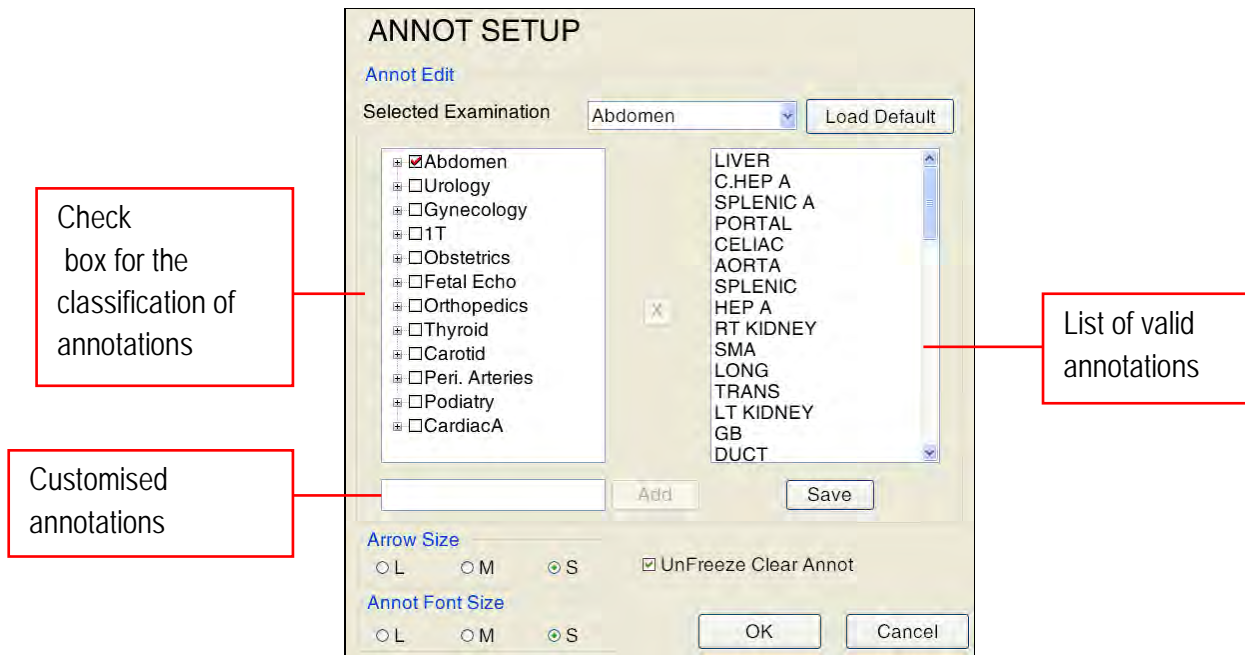

Figure 34: Annotation Setup screen
**Annotation Setup** enables users to define annotations. Click on **Setup** on the control panel to open the **SETUP** screen, then click on **Annotation Setup** to open the **ANNOT SETUP** screen, as shown in Figure 34.